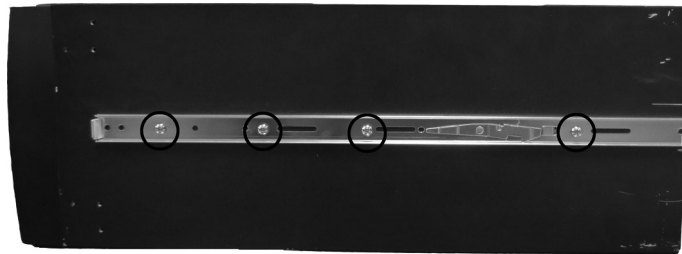

Figure 9
3. Make smooth face of inner rail corresponding with the side of chassis and the holes location in inner rail corresponding with the screw holes on chassis. And also make inner rail stay close to the chassis. And then completely fix the inner rail into chassis through 4 round head M4*6 screws based on the location shown in Figure 9.